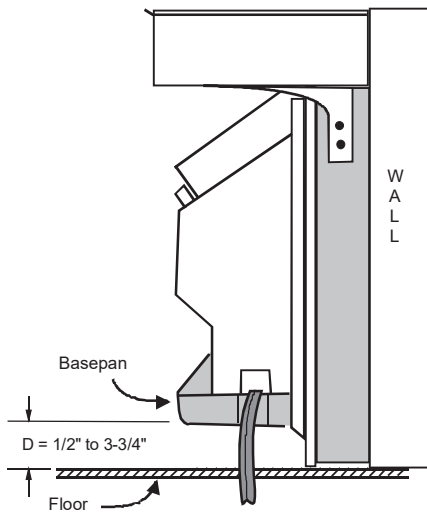
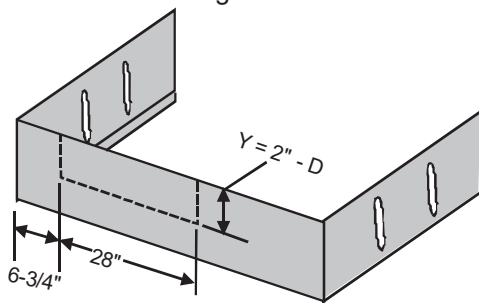

Figure 6
Figure 7
7. Measure the actual distance "D" (Figure 6) from the bottom of the chassis basepan to the finished floor to determine how far to extend the skirt below the metal front. If the distance is less than two inches, trim the skirt per Figure 7 so that it will not interfere with the gasket or block the inlet air on the front. In Figure 7, "Y" dimension equals 2" minus actual "D" dimension.